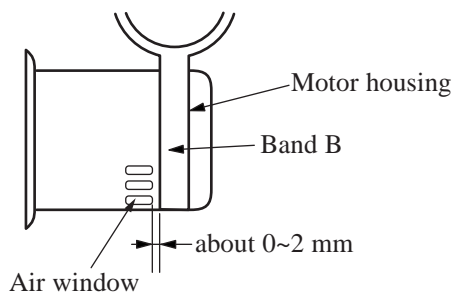

Figure 6
(10) Fix the band B for holding the tank at the position shown on the figure 6 while care is exercised not to cover the air window of motor housing.